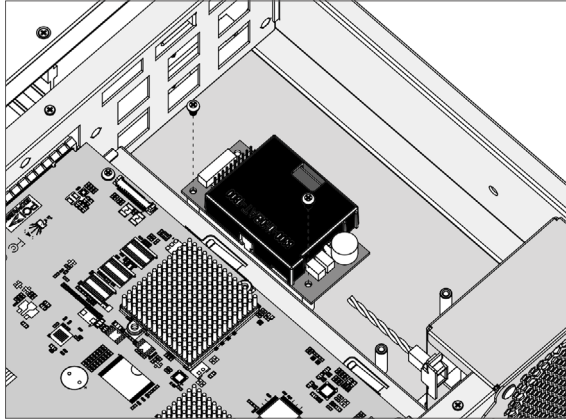

Figure C-3, Secure the Battery Module
2. After removing the cover, then secure the battery pack module (ARC-6120-BAT121-7, reference NO.1 in Figure C-1) in the bottom of the enclosure (for ARC-8050T3-12R), as shown in Figure C-3.